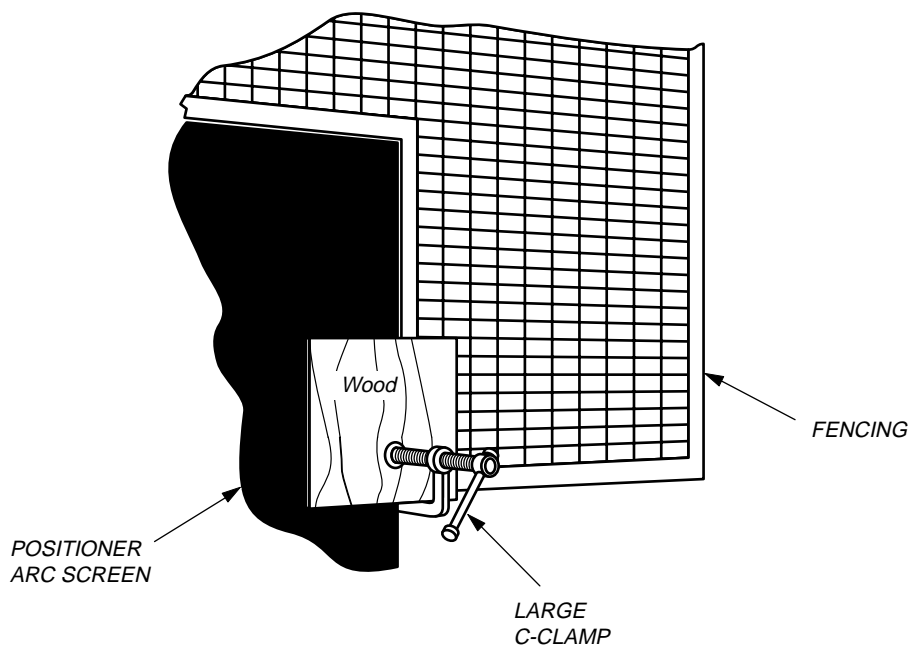

Figure 4-10 Wall Clamped to Positioner Arc Screen with C-Clamps
7. Raise front wall and center it carefully over positioner (see Figure 4-10).